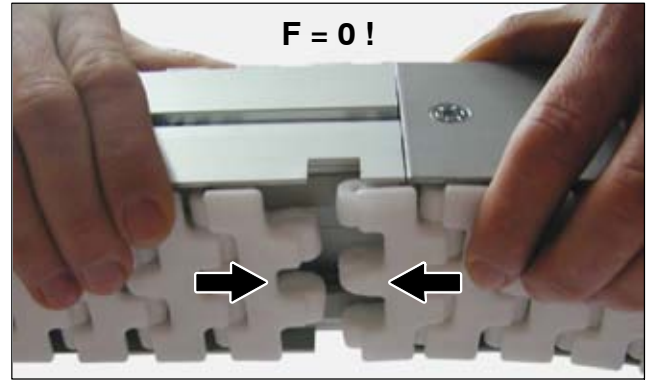

Fig. 35: Check chain length
- Check chain length (see Fig. 35).